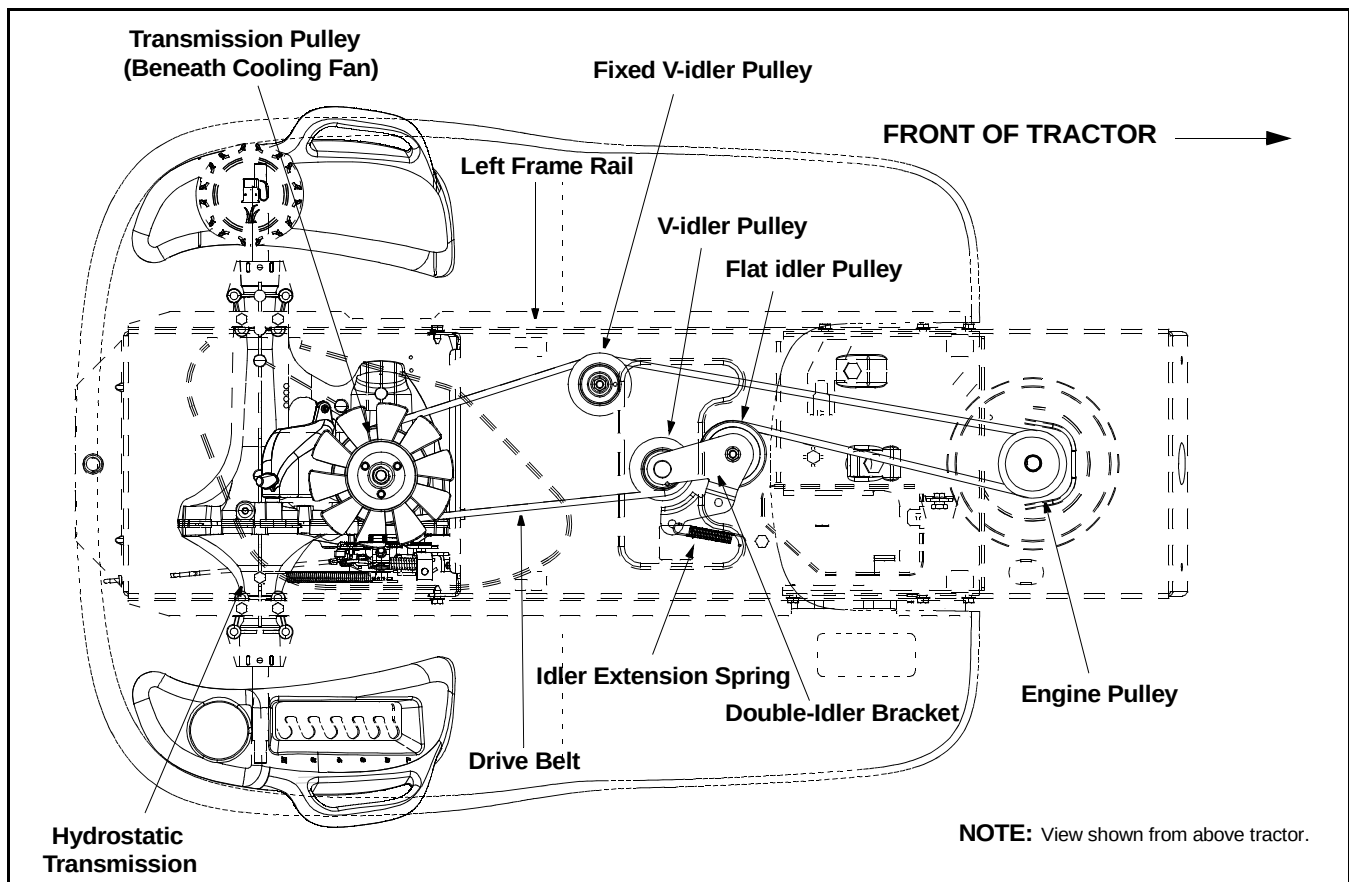

Figure 29
IMPORTANT: Note the routing of the drive belt both on the tractor and in Figure 29 BEFORE performing the following steps.
- Locate the fixed v-idler pulley found on the left underside of the frame. See Figure 29.
- Grasp the belt on each side of the pulley and carefully move it toward the left frame rail, then downward to disengage the belt from the fixed idler pulley. See Figure 29.
- Remove the drive belt by feeding it from front to rear, toward the hydrostatic transmission. See Figure 29.
- Install the new belt routing it **EXACTLY** as the old one was routed. Refer to Figure 29.